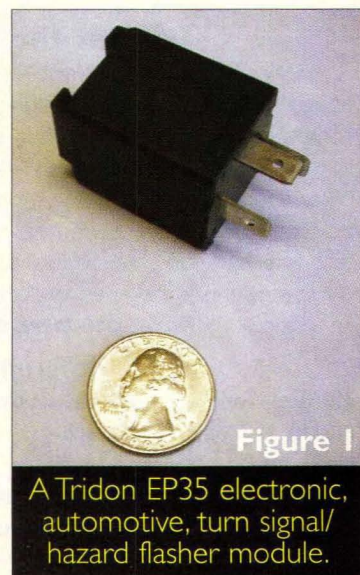

Figure 1
Figure 1 shows an example of a Tridon EP35 electronic flasher. Electronic flashers have an integrated circuit (IC), which controls the function. Some typical manufacturers of these integrated circuits are Atmel, Motorola, and ST. The method of detection of a defective lamp (lamp outage) is similar for all the manufacturers. The integrated circuit that is used in a large number of flashers is the Atmel U643B. An examination of the lamp outage methodology of an Atmel U643B-based flasher module will serve as a good example for all flashers with similar integrated circuits.